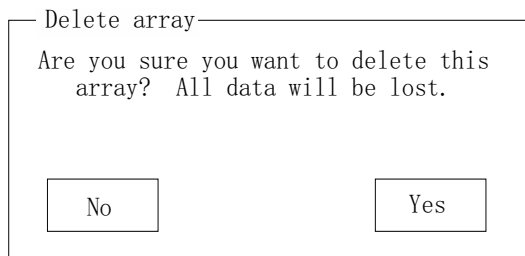

Figure 2-18. Delete Array Window
- 2 A warning message appears, as shown in Figure 2-18. Select **Yes** or **No**. The array configuration for the devices is not deleted until you select **File > Set System Config** or exit SMOR and choose to save your changes.